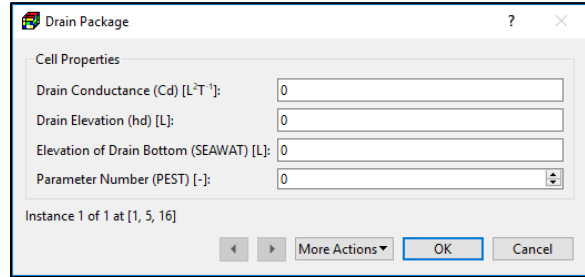

Figure 44. The Drain Package dialog box for specifying cell properties
- 1. Cell-by-cell input method:** Figure 44 shows the dialog box for specifying one or more drain segments to a model cell. For each segment, the following properties need to be assigned.